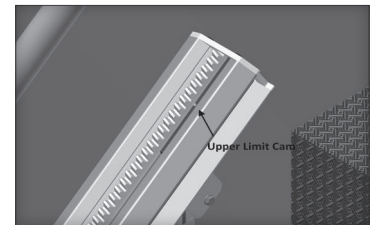

Figure 9-2
**17. Insert the upper limit cam into the slot in the rail** at the top and tighten the set screw, this will need to be adjusted later to stop the lift in the proper location. [Figure 9-2]